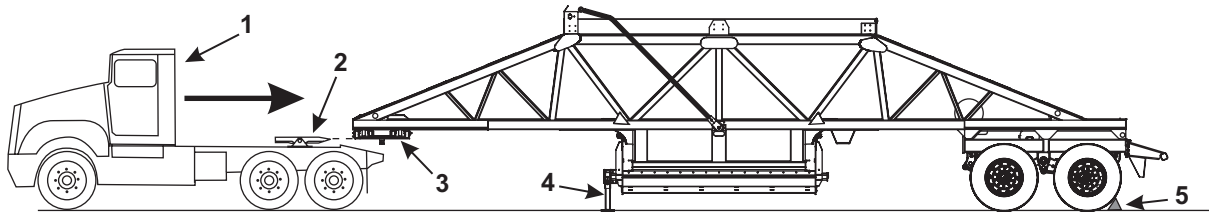

Figure 3-8 – Coupling Tractor to Semitrailer
- Make sure the fifth wheel jaws are fully opened (1, Figure 3-8).
2. Inspect the semitrailer kingpin (1, Figure 3-8) for damage and/or wear.
- Always chock the trailer using chock blocks (5, Figure 3-8) when coupling the tractor and semitrailer.